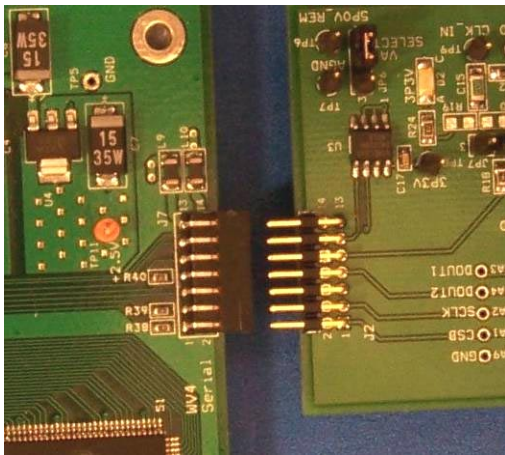
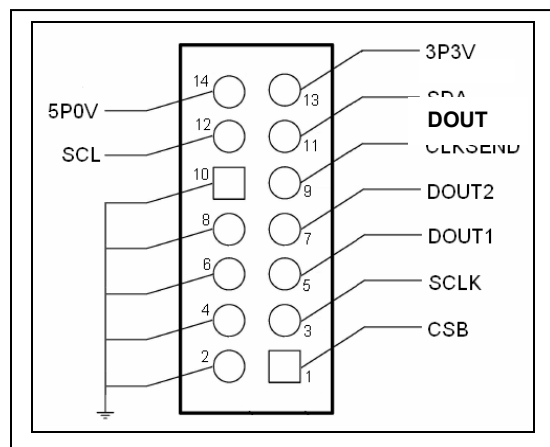

Figure 4: WV4 to ADC122S625 Connection
Figure 5: J6 (WV4S) Header Pin Out
- Apply the signals to control the SPI interface at J6 or VIA5 to VIA7. See the evaluation board schematic (Figure 10) or the J6 header pin out (Figure 5) for more details.
- Connect the J6 header on the ADC122S625 evaluation board to the J7 WV4 serial connector on the WV4 board. Refer to Figure 4 for the serial connection and Figure 5 for the J6 header pin out.